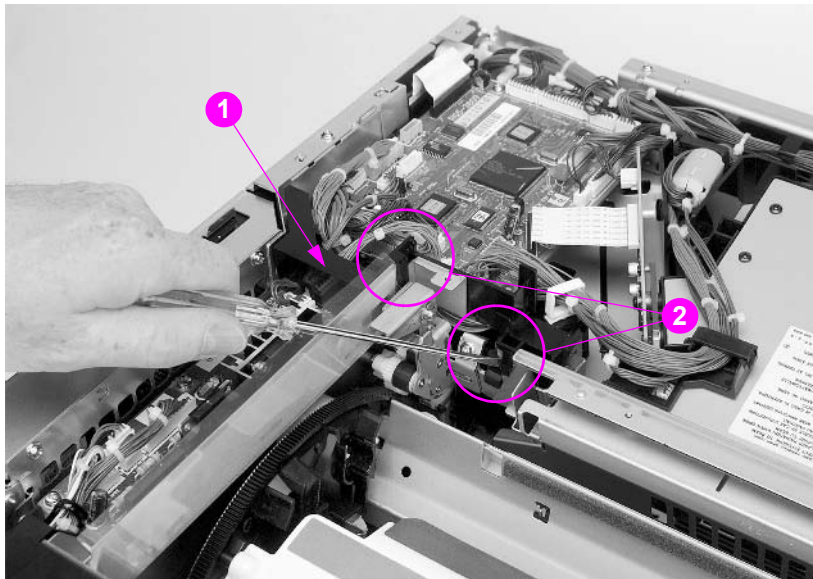

Figure 6-16 Developing PCB removal and replacement (1 of 2)
- 4 Remove the plastic shield (callout 1, Figure 6-16) by releasing the two tabs shown (callout 2, Figure 6-16). If necessary, insert a flatblade screwdriver between the shield and the frame to release the tab.